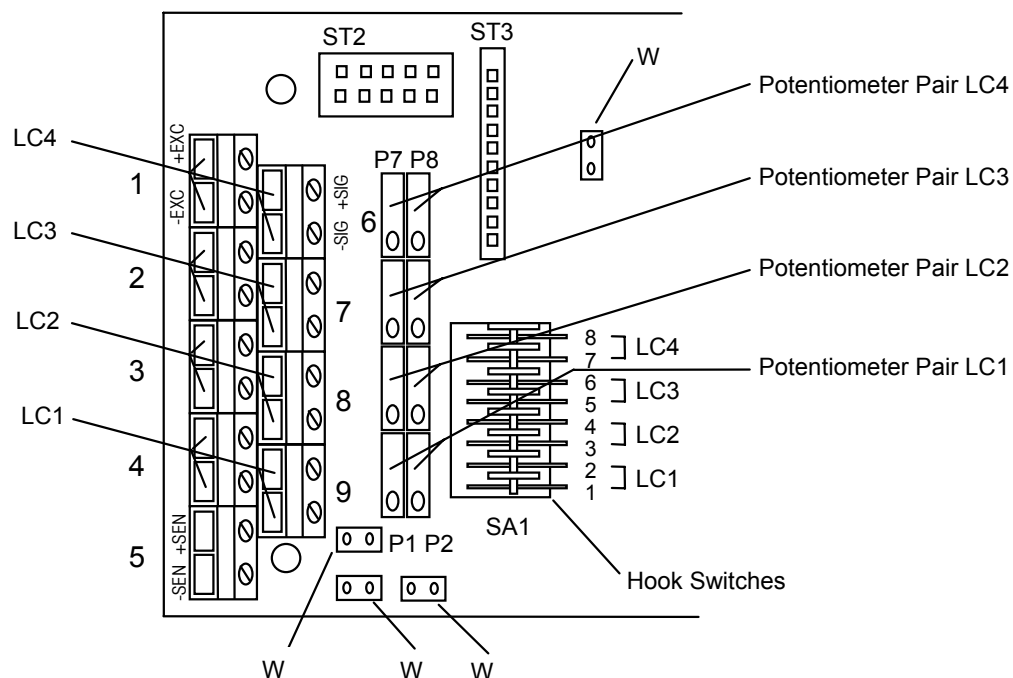

Figure 8-3: IDNet Potentiometer Adjustment
2. Activate the trim potentiometers by opening the eight hook switches (if not already open) located on the PCB (Figure 8-3). Once activated, the switches remain open. Do not close the latches, even after completing the shift adjustment.